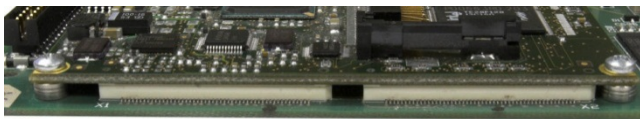

Figure 3-60: ETX Board Connectors Fully Seated
4. Check to ensure that all connectors are fully seated, as shown in Figure 3-60.